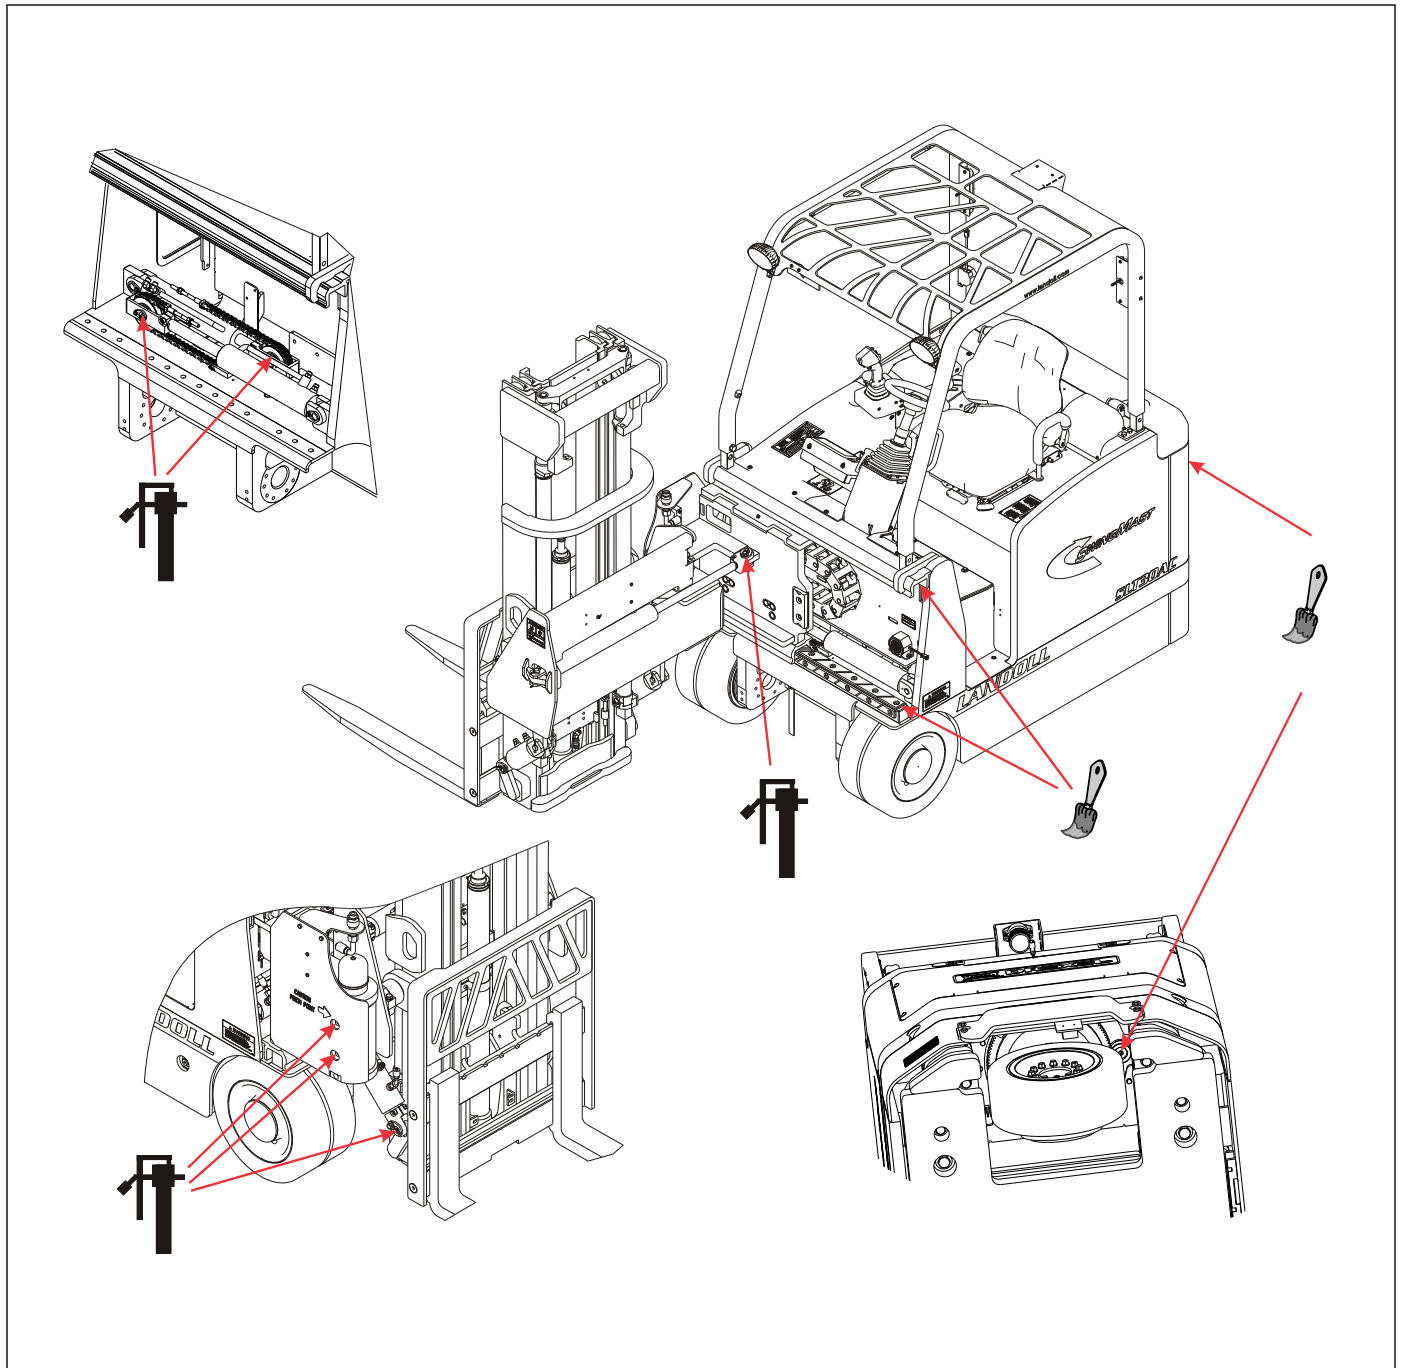

Figure 6-1: Grease Locations
3. In the following procedures, the location of grease fittings or surfaces to be greased are by either a grease-gun or brush respectively. **See Figure 6-1.**